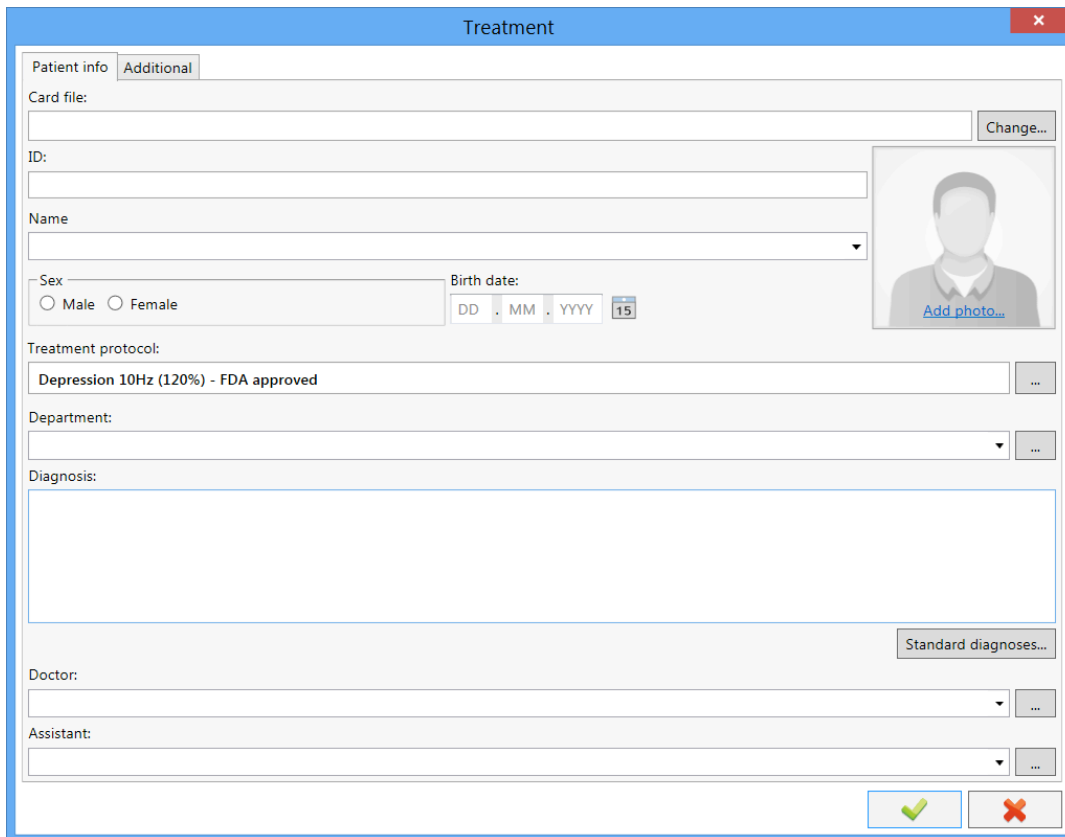
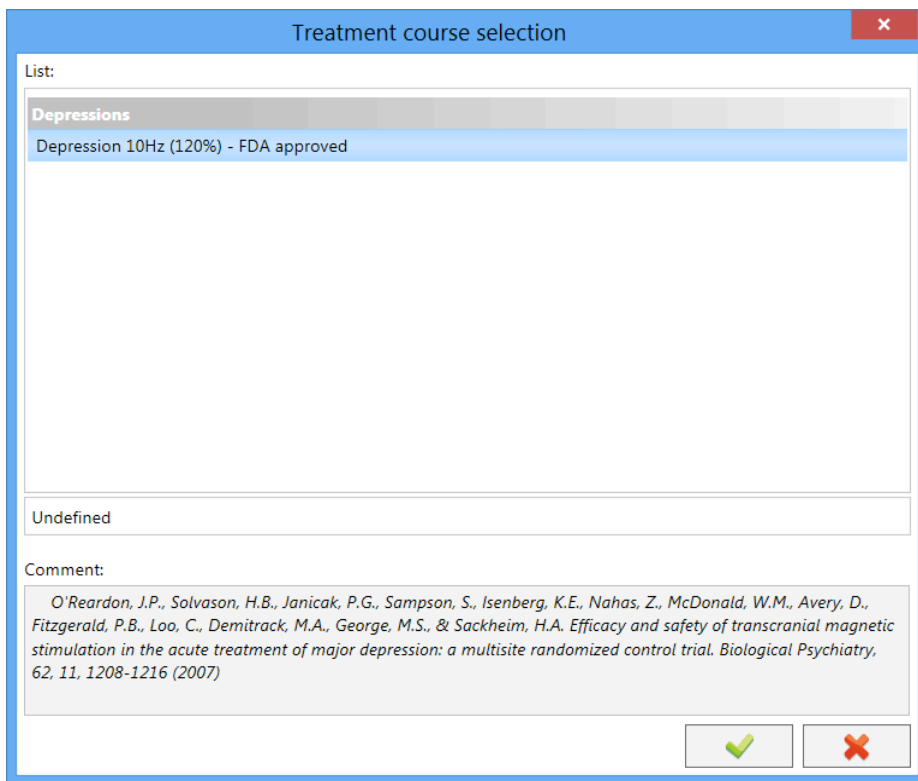

Fig. 26. “Treatment” window.
Fig. 27. “Treatment course selection” dialog box.
7. In the “Treatment” window that appears enter patient’s data (Fig. 26).
8. Make sure that FDA recommended protocol is selected in “Treatment protocol”. If FDA recommended protocol isn’t selected press button in “Treatment protocol” (Fig. 26) and in the appeared “Treatment course selection” dialog box choose FDA recommended protocol (Fig. 27).
9. Confirm your choice. Press button in “Treatment course selection” dialog box (Fig. 27).
10. Press button in “Treatment” window (Fig. 26).